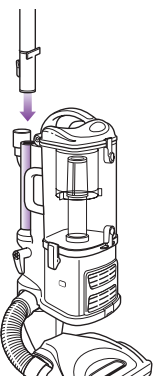

Fig. 11
- 3 Attach the end of the extension wand to the tube on the back of the Lift-Away® canister until it clicks into place. (Fig. 11)